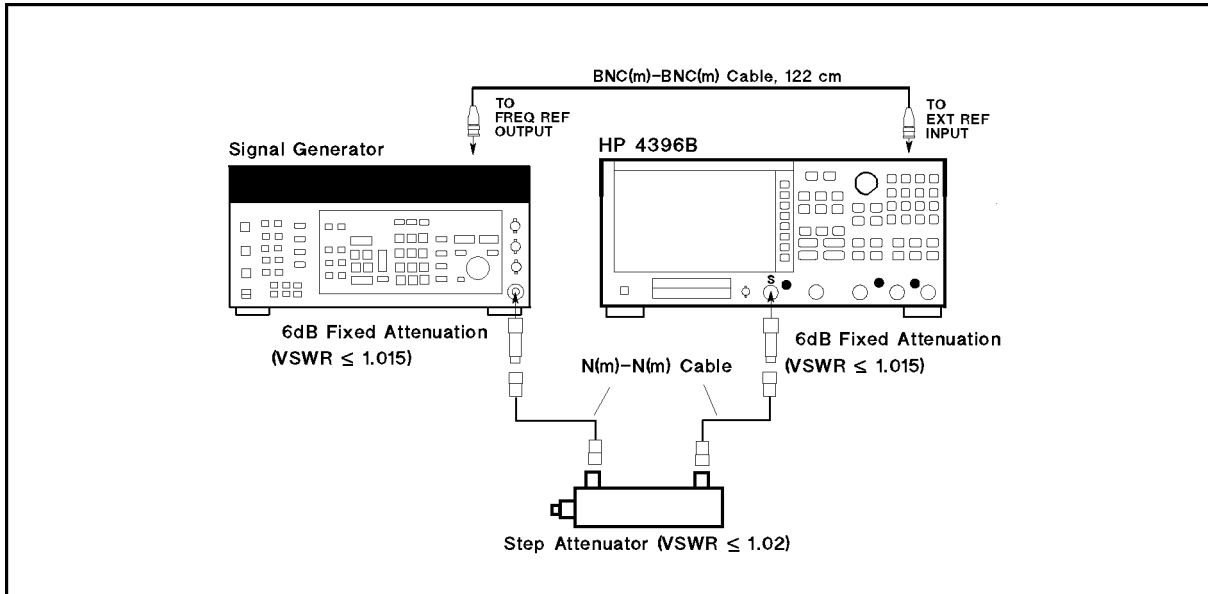

Figure 2-20. Amplitude Fidelity Test Setup
3. Connect the test equipment as shown in Figure 2-20.
Connect the signal generator's 10 MHz frequency reference output to the 4396B EXT REF Input on the rear panel as shown in Figure 2-20. With this configuration, both the signal generator and the 4396B are phase locked to the same reference frequency to obtain a stable measurement.